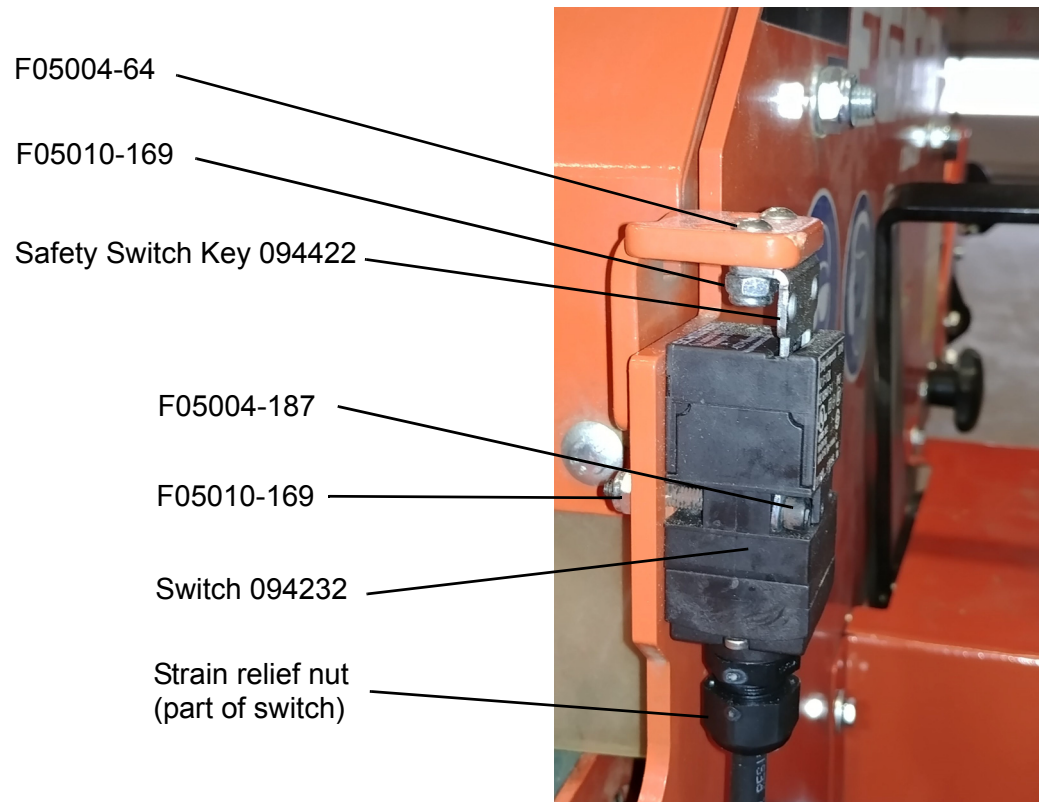

FIGURE 12
11. Mount the switch to the frame. (See Figure 12.)